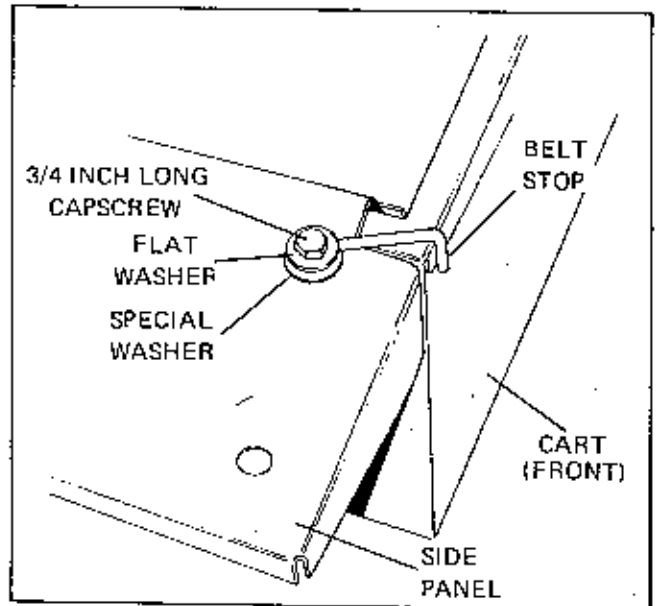

FIGURE 20
6. Secure belt stop to inside front of side panel with two flat washers (one above and one below side panel), special washer, 3/4 inch long capscrew, and locknut (Figure 20). Position belt stop at angle illustrated. Repeat procedure for remaining front corner.